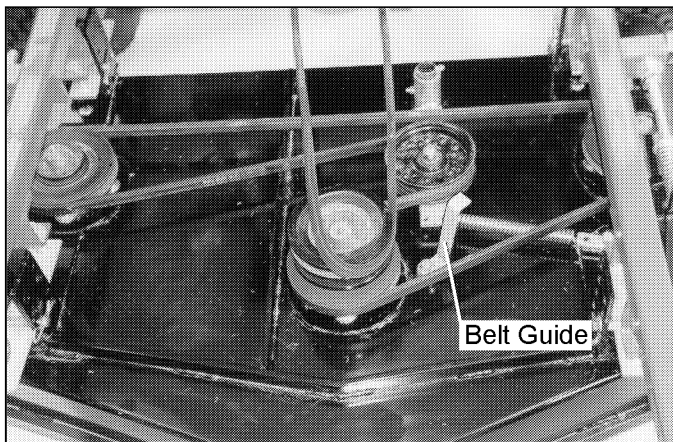

Figure 18
1. Loosen the belt guide and push it aside (*Figure 18*).
2. Remove the belt from top pulley on the deck (*Figure 18*).